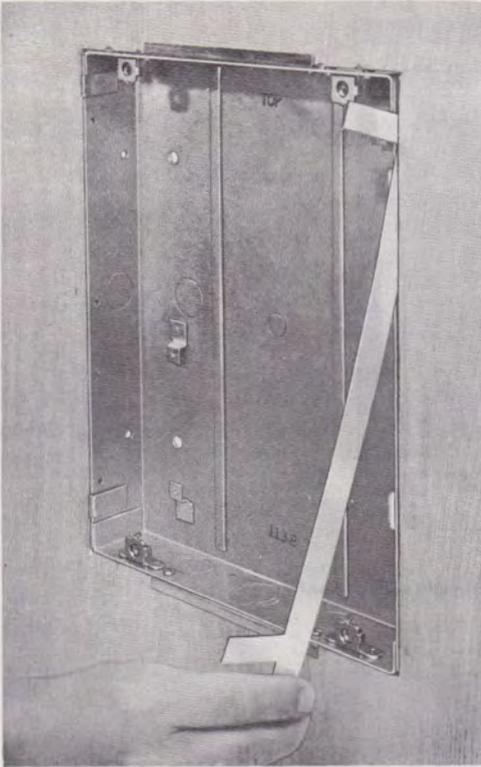

Fig. 15—113E Apparatus Box, Showing Installation of Clips from D-179941 Kit of Parts
- (2) Slide apparatus box in wall until stops firmly contact wall surface.
- (3) Insert the clips between the side of the box and the edge of the hole in wall (Fig. 15) with the tabs protruding toward the front.